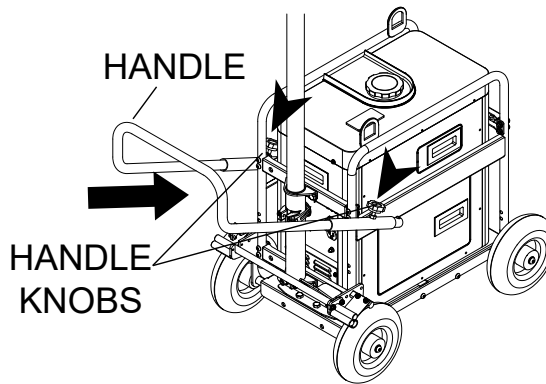

Figure 30. Stowing the Handle
1. Loosen the handle knobs on both sides of the cart (Figure 30).